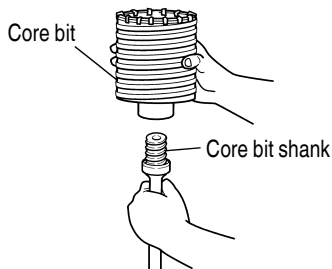

Fig. 30
- (1) Mount the core bit to the core bit shank. (Fig. 30)